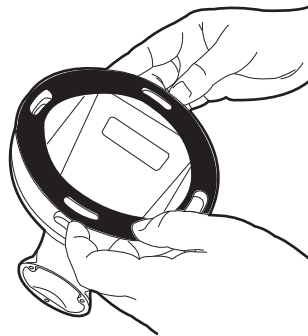

Figure 2. Attaching the Gasket to the EWM
5. Attach the gasket (supplied with the EWM) to the end of the EWM mount (refer to Figure 2 on page 3).
7. Attach the gasket (supplied with the EWM) to the end of the EWM mount (refer to Figure 2 on page 3).